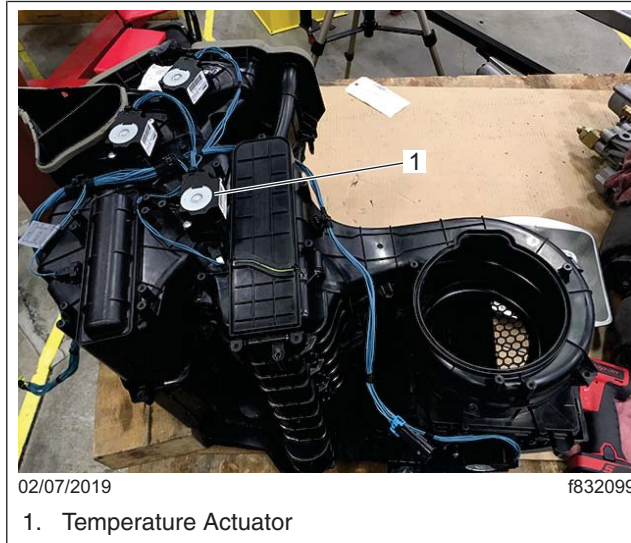

Fig. 12, HVAC Unit
29. Remove the HVAC unit from the cab and place it securely on the work bench with the defrost, floor, & temperature actuators (stepper motors) facing up. See Fig. 12.